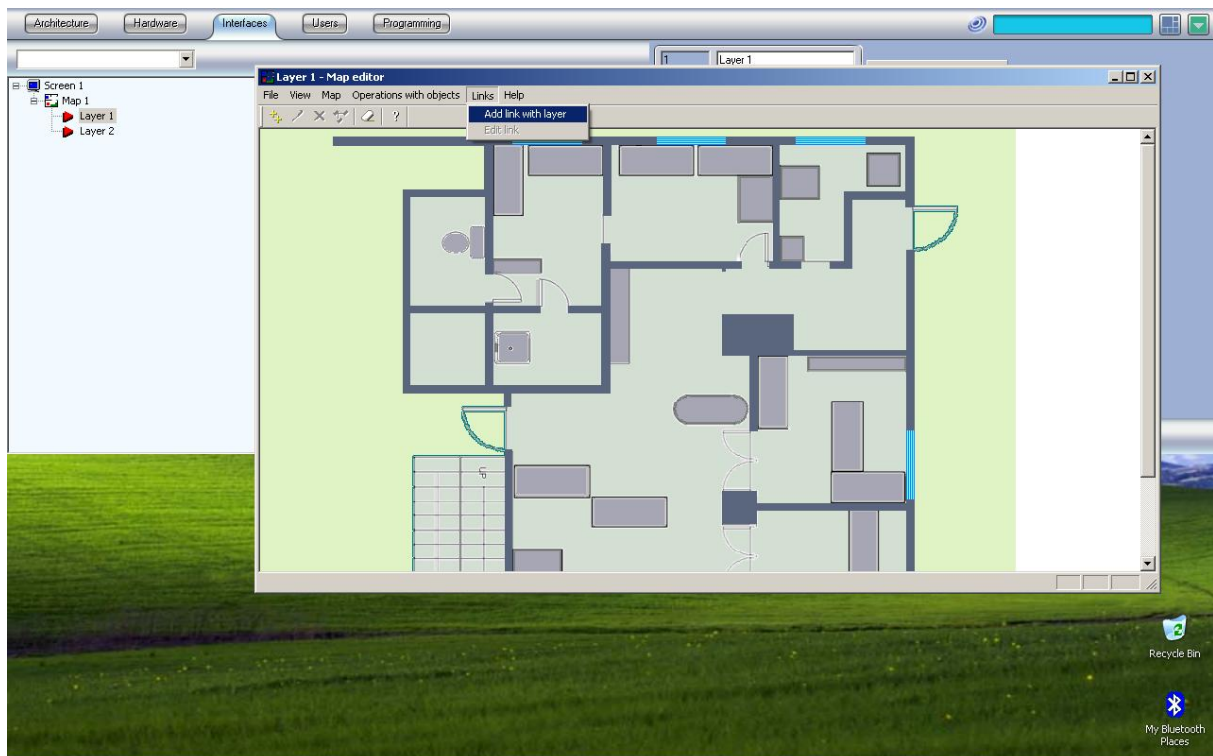
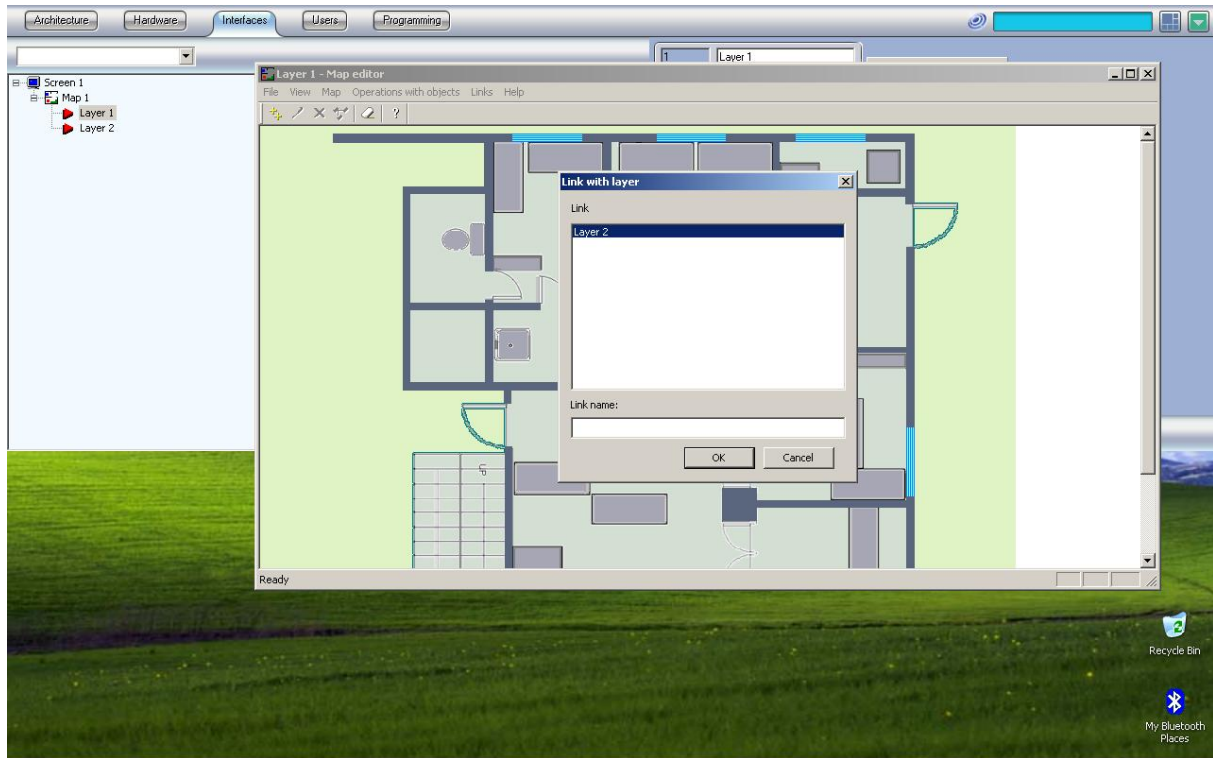

fig.25
fig.26
7) If you want to make a connection with other layers of the map this can be done from menu “Links → Add link with layers” (fig. 25). Then the window “Link with layer appears” (fig. 26).